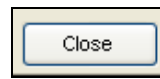

Figure 17.2.31
- Click on the **Close** button if you do not want to send this schedule to the controller (Figure 17.2.31).